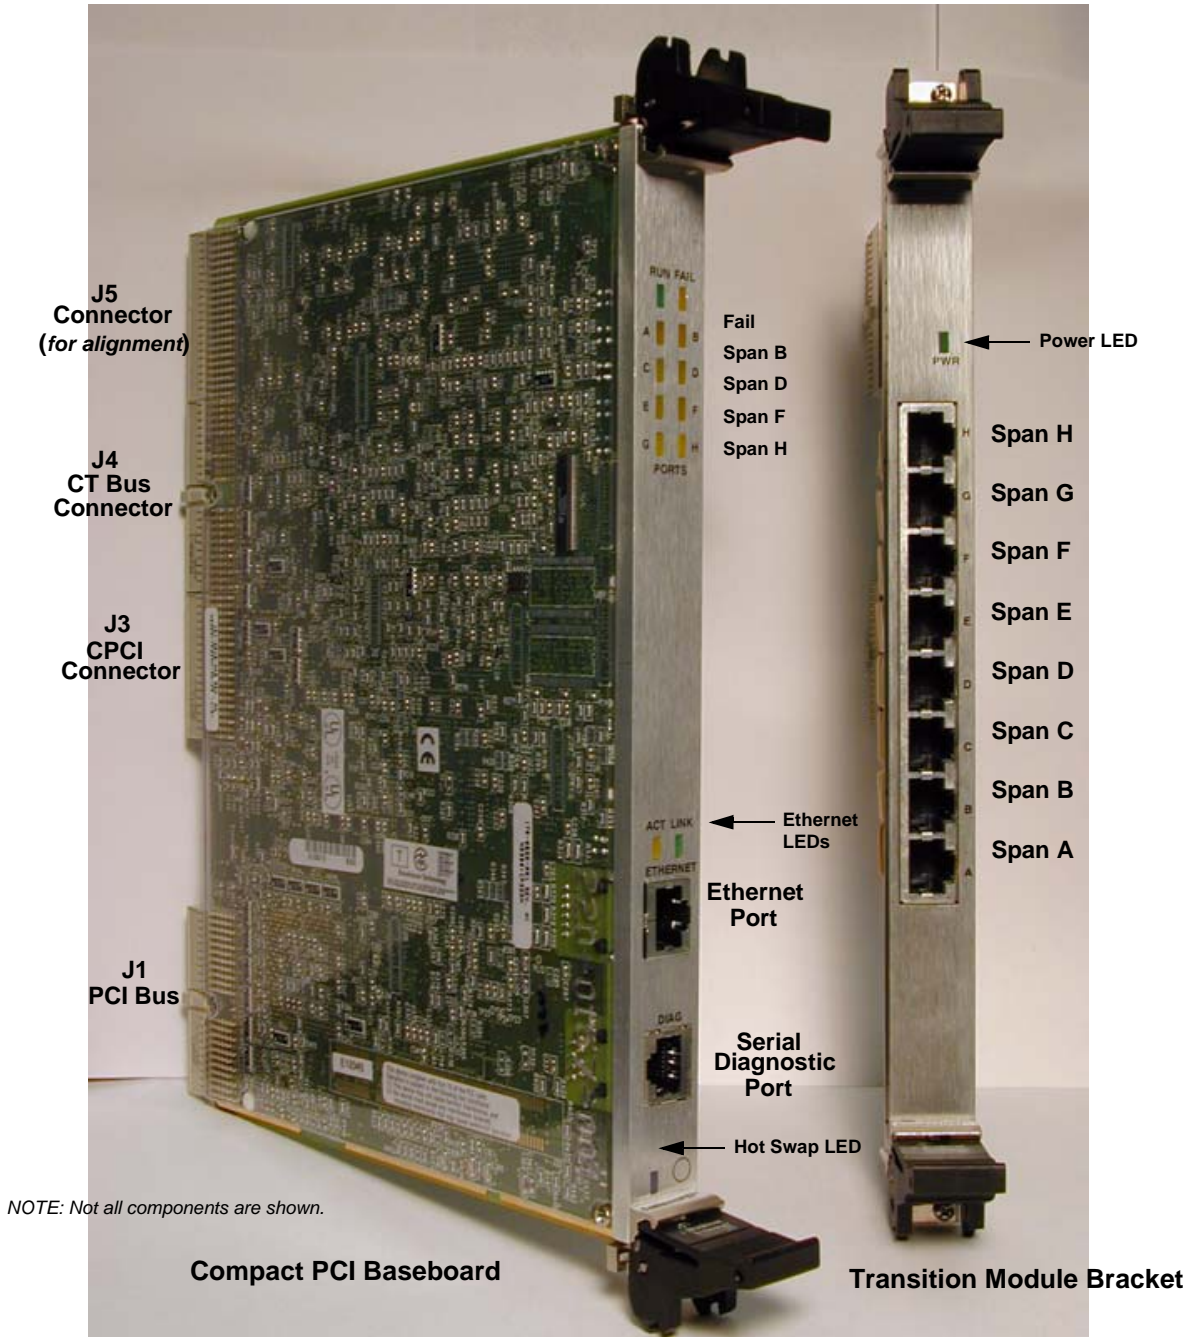

Figure 3-1. Connector Locations (8-spans)
*Figure 3-1* shows the location of these interfaces.